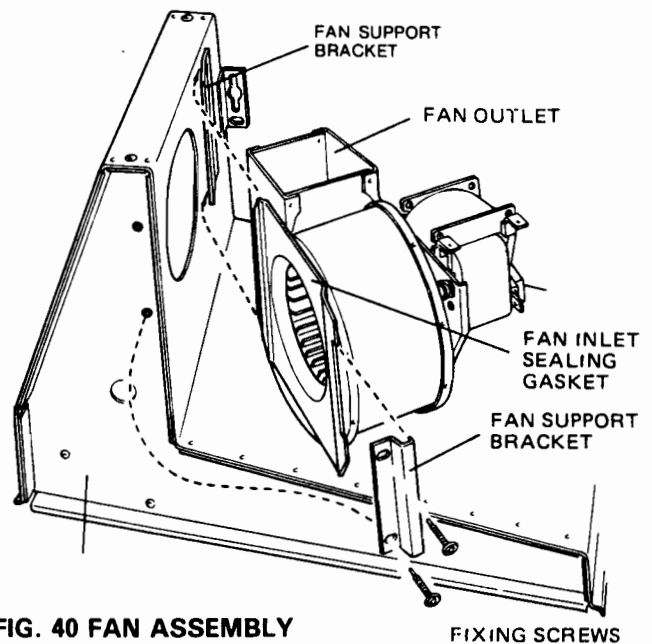

FIG. 40 FAN ASSEMBLY
### 30. FAN (see Fig. 40)
- b) Fit new fan into position ensure the fan is located correctly (see Fig. 40) ensuring that a good seal is made between the fan outlet and the flue. Renew gasket if damaged. Reassemble in reverse order and check that the electrical wiring and connections are not damaged.